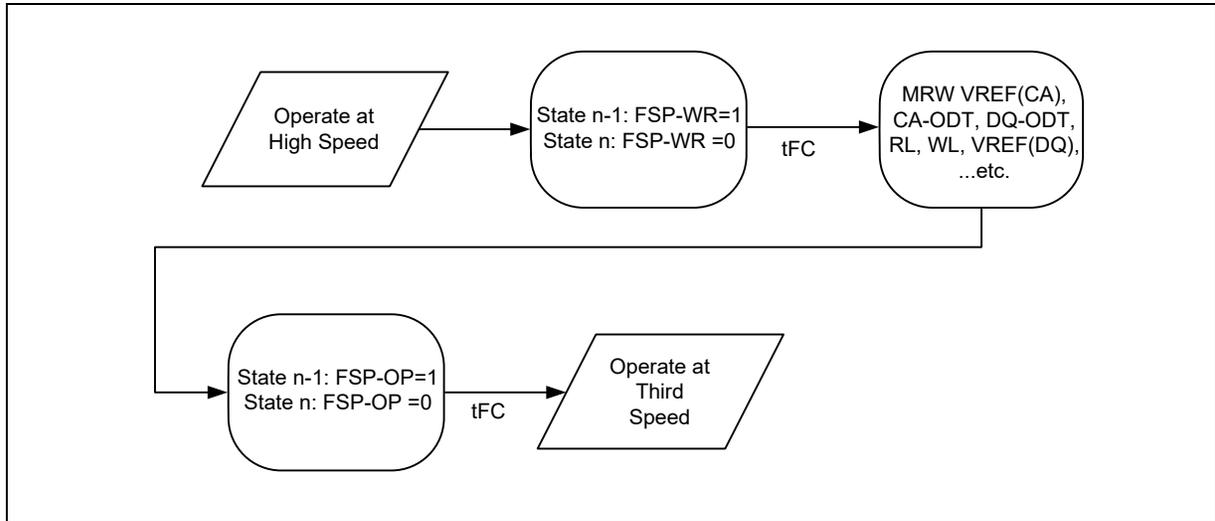

Figure 105 - Switching to a Third Trained Frequency Set-Point
Switching to a third (or more) Set-Point can be accomplished if the memory controller has stored the previously-trained values (in particular the VREF(CA) calibration value) and re-writes these to the alternate Set-Point before switching FSP-OP (Figure 105).